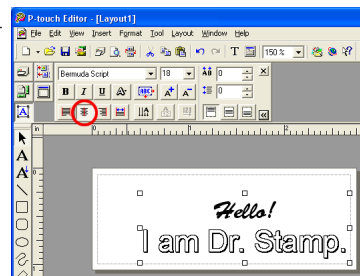

figure 11
- ❶ Display the Text Properties, and then click the Enlarge/Reduce button to display the advanced settings.
- ❷ With the Select tool, click the block of text to be changed in the stamp layout. Handles appear around the text block.
- ❸ Click the Center Alignment button (see figure 11).